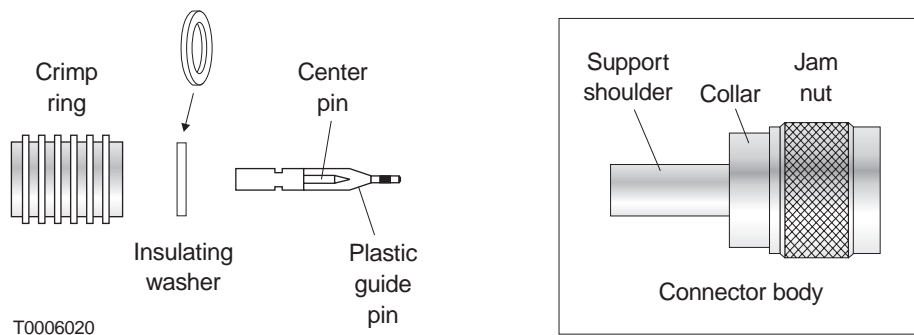

Figure C-6 IFL (N) connector (HNS 9006284-0002)
The following steps explain how to attach the IFL (N) connector. The same type of connector is used at both ends. The connector includes a plastic guide pin to protect the dielectric during installation, as shown in figure C-6.